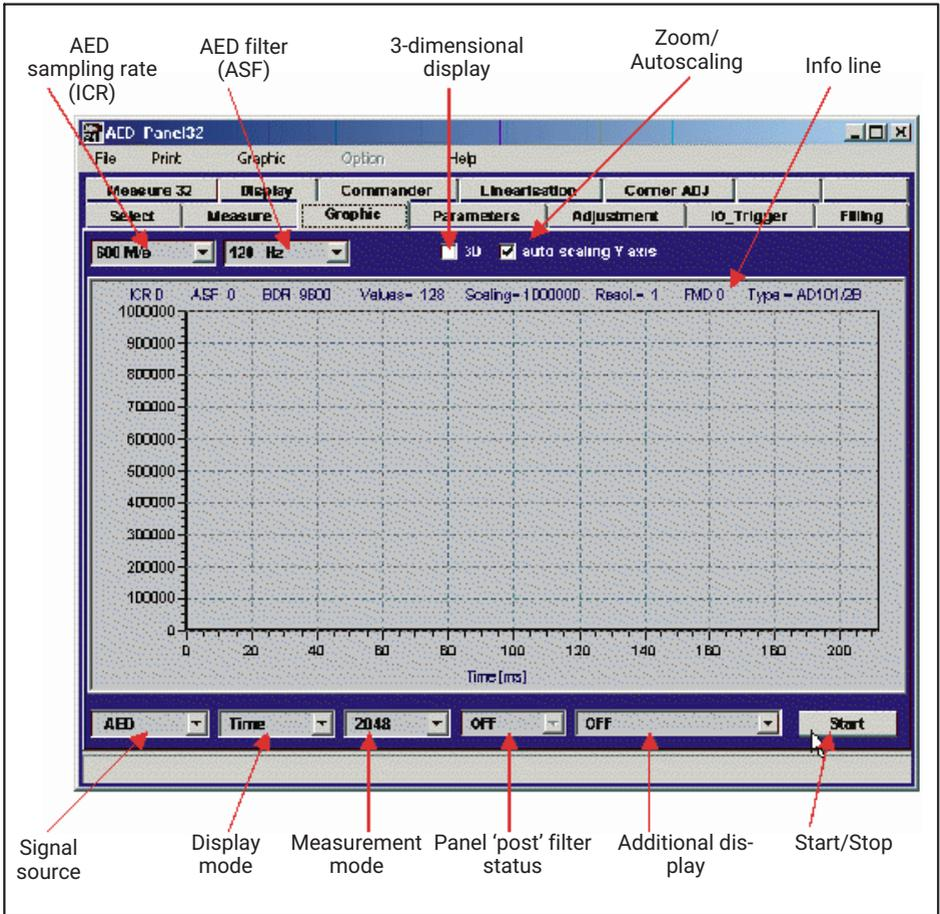

Fig. 5.2 Settings in the time measurement Graphics menu
Fig. 5.2 shows the Graphics menu before a measurement is started.
Graph additional display (Fig. 5.2)
- Save the measurement in the *.grf file and evaluate it (cursor, zoom, etc., see Introduction, Fig. 5.2)
- Switch the display mode (Fig. 5.2) to “Frequency”